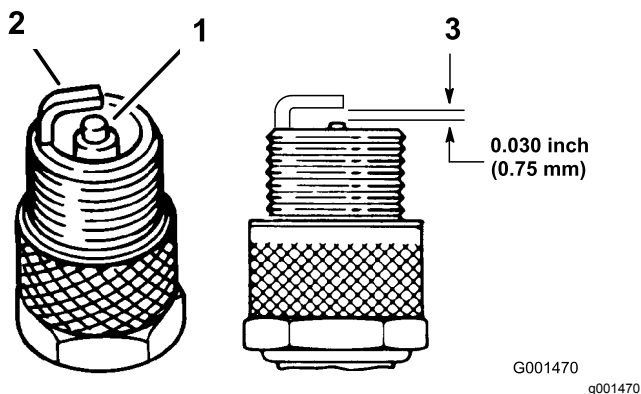

Figure 25
1. Look at the center of the spark plugs (Figure 25). If you see light brown or gray on the insulator, the engine is operating properly. A black coating on the insulator usually means that the air cleaner is dirty.
2. Check the gap between the center and side electrodes (Figure 25). Bend the side electrode if the gap is not correct.